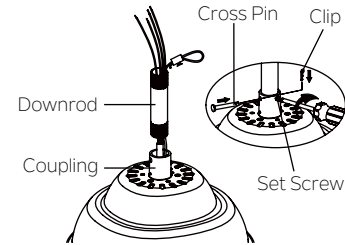

Fig. 8
Step 4. Carefully feed the fan wires and safety cable up through the downrod. Thread the downrod onto the motor coupling until the cross pin holes are aligned. Next, replace the cross pin and clip, and tighten both set screws. (Fig. 8)